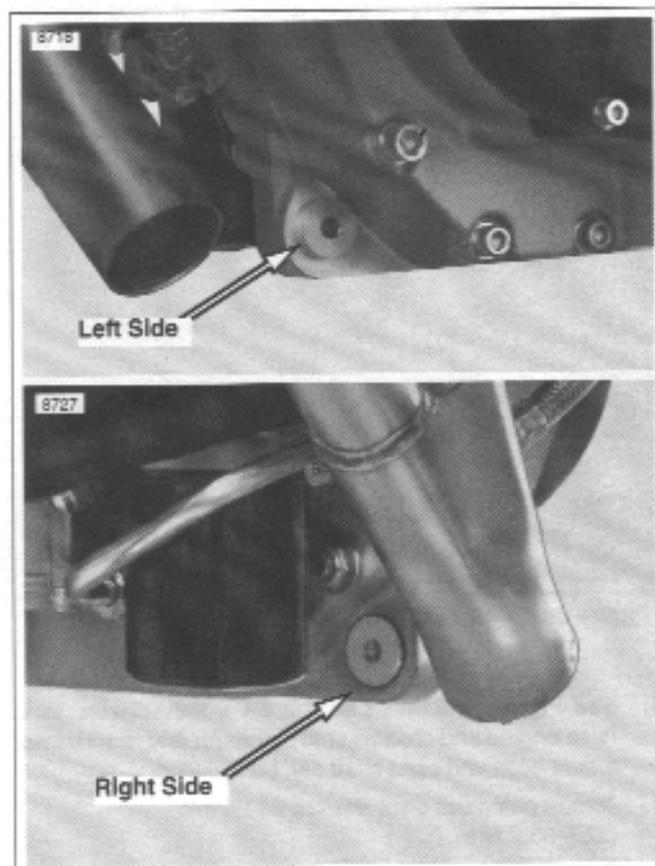

Figure 3-38. Front Exhaust Mount Bushings (2 piece)
- d. See Figure 3-38. Aluminum bushings from front exhaust mount.